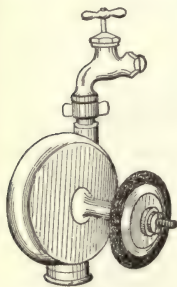

FIG. 73. — Water motor.
78. Water motors. In cities where water is supplied under considerable pressure, it may be used to run sewing machines, small polishers, grinders, lathes, etc., by means of a water motor. A simple form is shown in figure 73. The stream of water is made to pass through a small opening at high velocity and to strike against some blades or buckets on the rim of a wheel. The wheel is inclosed in a metal case, from which the water flows away to the drain-pipe. The impact of the water against the blades turns the shaft, to which the machines to be driven are connected either directly or by belts.